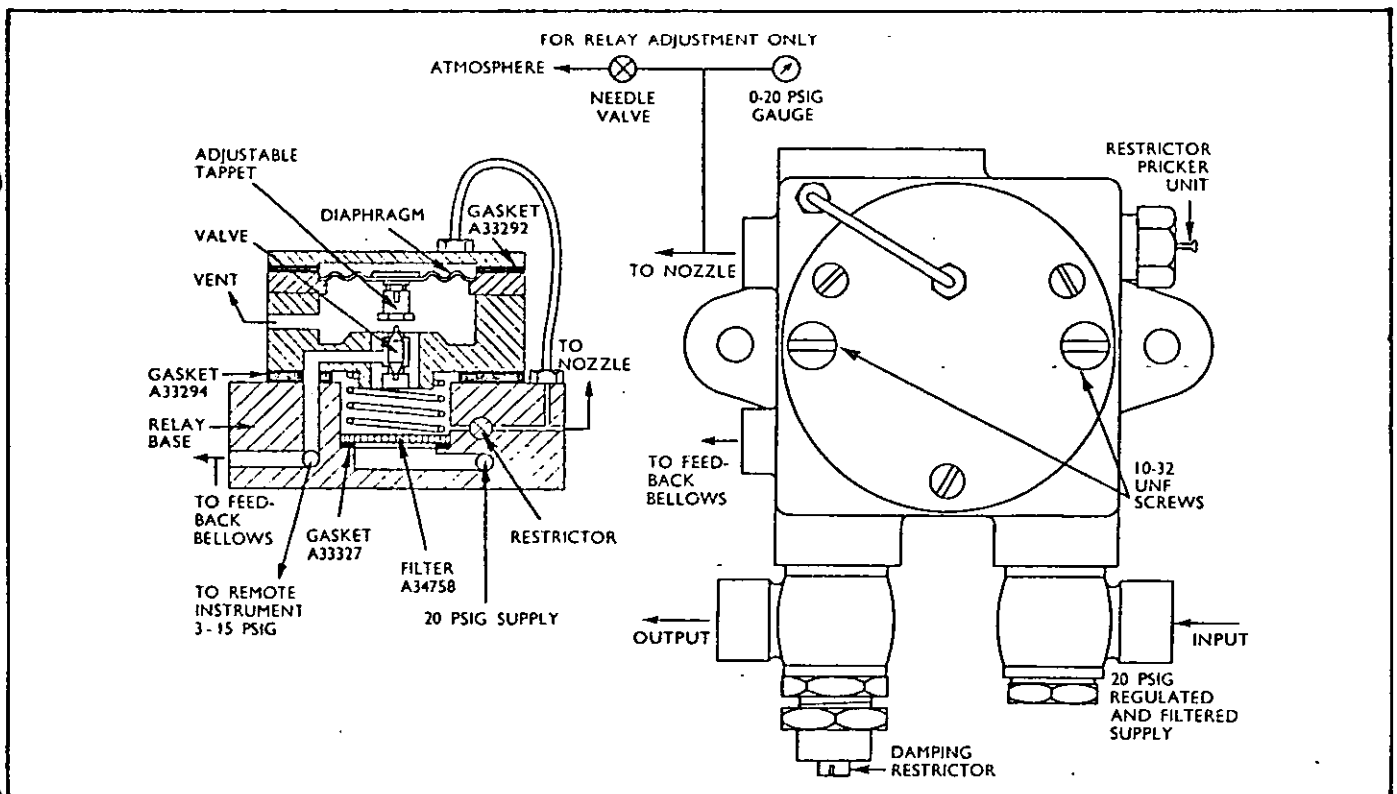

Fig. 8
8.1 The relay, fig.8 is of the continuous bleed type and consumes a maximum of 15 l/min (0.5 SCFM). The restrictor feeding the nozzle is situated on the side of the relay mounting block and can be cleared by depressing the external pin. Included in the outlet of the mounting block is an adjustable damping restrictor (N). When setting up the relay ensure that the restrictor is open. Air
- 8.6 Connect a needle valve and pressure gauge to the nozzle connection fig. 8, and a pressure gauge or manometer to the output connection.